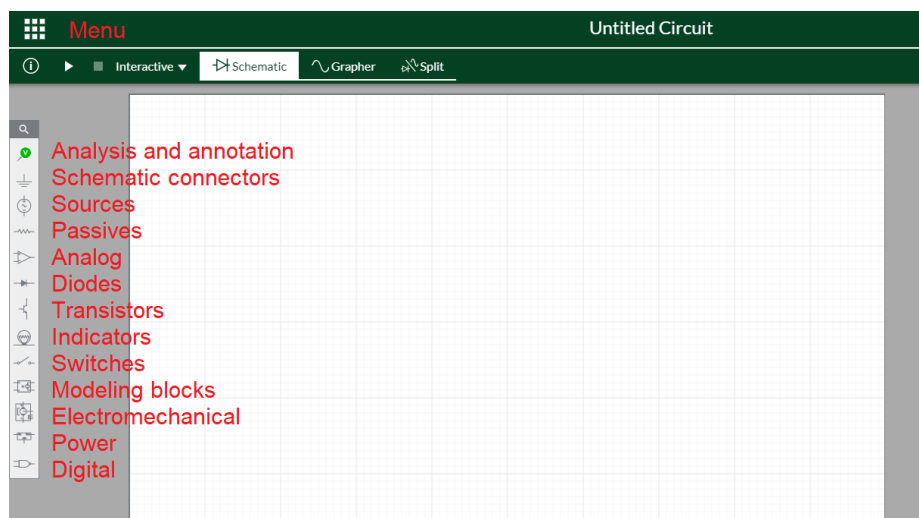

Figure 4: The names of the different components available to build a circuit are shown in red.
1. You should see the schematic-entry page in Figure 4; the names of the different tools are shown in red text adjacent to each tool. You will see these names pop-up when you allow your mouse pointer to loiter over a tool.
4. Go to the **Sources** tool (see Figure 4) and select DC Voltage (VCC).